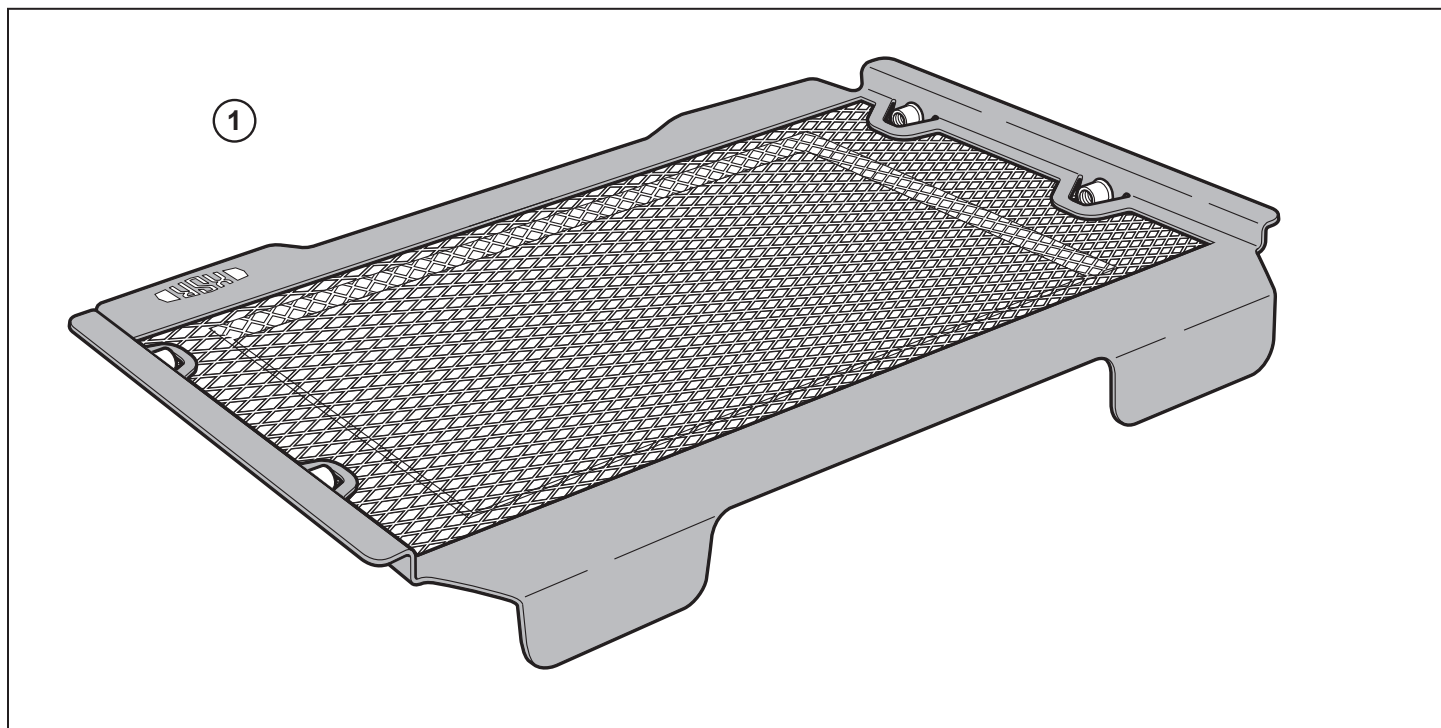

Fig. 1
- 1** Remove the 2 radiator side cover mount screws (see Fig.1).
- 2** Remove the radiator side cover (see Fig.1).